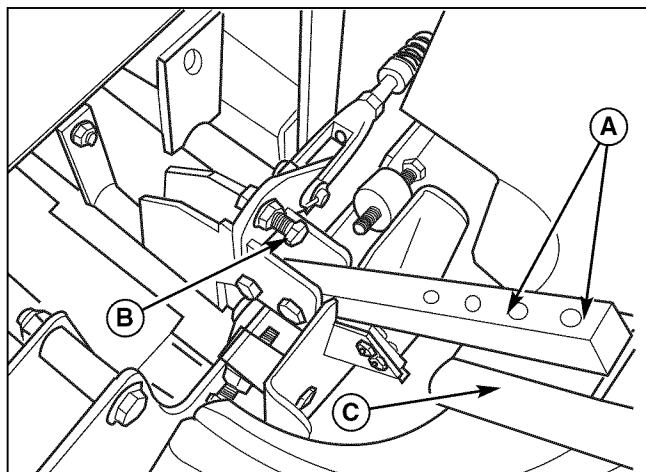

Figure 33. Control Lever Adjustment
To Adjust the Handle Alignment: Loosen the mount bolts (A, Figure 33) and pivot the lever(s) (C) to align with each other.
To Adjust the Handle Placement: Loosen the jam nuts and adjust the placement bolt (B, Figure 33) in or out to properly adjust the lever end spacing.